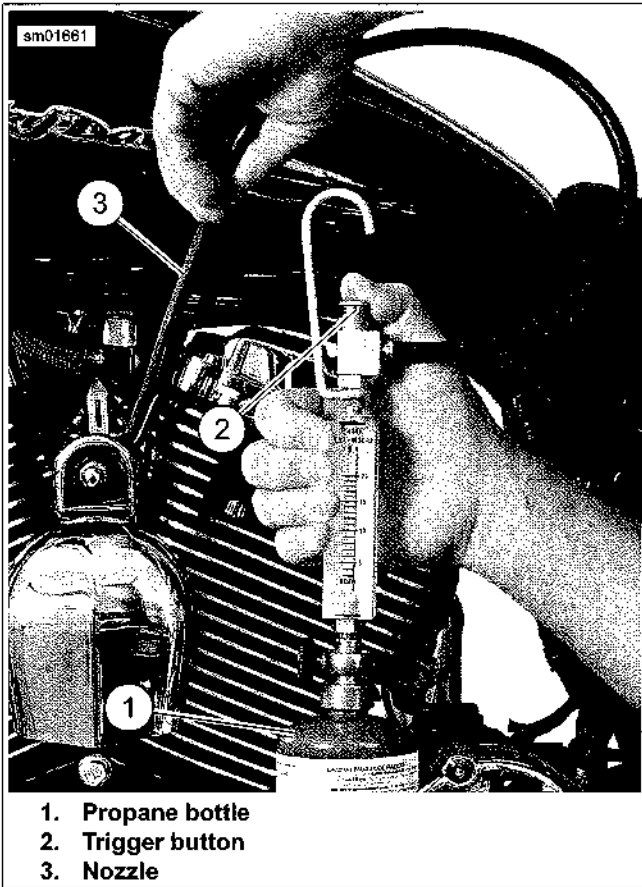

Figure 4-55. Checking for Leaks: All Models
- See Figure 4-55. Aim nozzle (3) toward possible sources of leak such as intake manifold mating surfaces.
- Press and release trigger button (2) to dispense propane. The tone of the engine changes when propane enters source of leak. Repeat as necessary to detect leak.